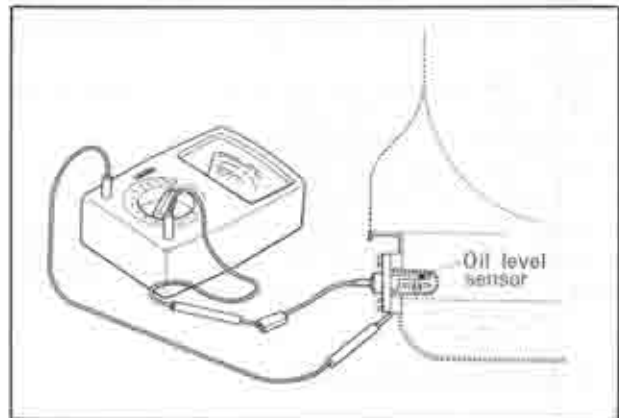

Fig. 2-21 Checking oil level sensor
1. Connect the circuit tester to the level sensor as shown in Fig. 2-21, and check the continuity by moving the float up and down.
- b. Connect the circuit tester to the level sensor as shown in Fig. 2-21.